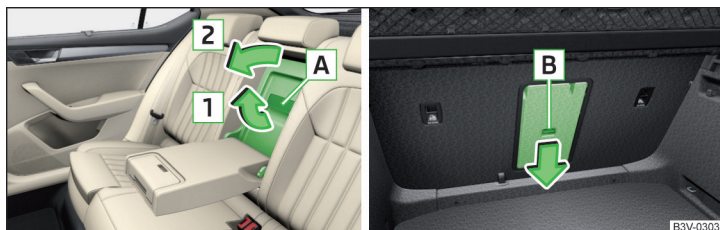

Fig. 100 **Open the cover: from the passenger compartment / from the luggage compartment**
- Pull handle **A** in the direction of arrow **1** and fold down the cover in the direction of arrow **2** » Fig. 100.
- Fold the rear armrest and the cover in the seat backrest downwards » Fig. 100 on page 91.